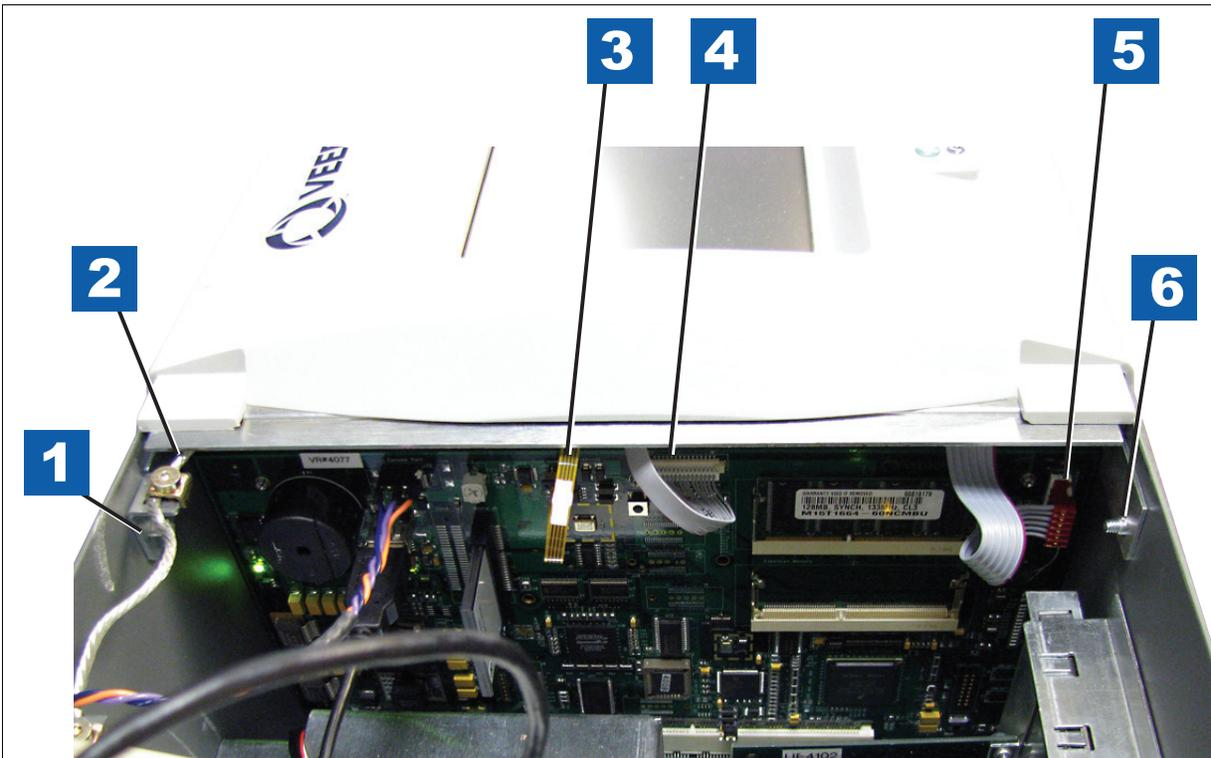

Figure 3. Display door cables
4. Disconnect the three cables from the Display door attached to the CPU board touchscreen connector, the display data connector and the LED/Display connector (see Figure 3).
**Legend for numbered boxes in Figure 3**
8. Reconnect the three cables from the Display door to their connectors on the CPU board (see Figure 3).
4. Disconnect the two cables from the Printer door (see Figure 3).